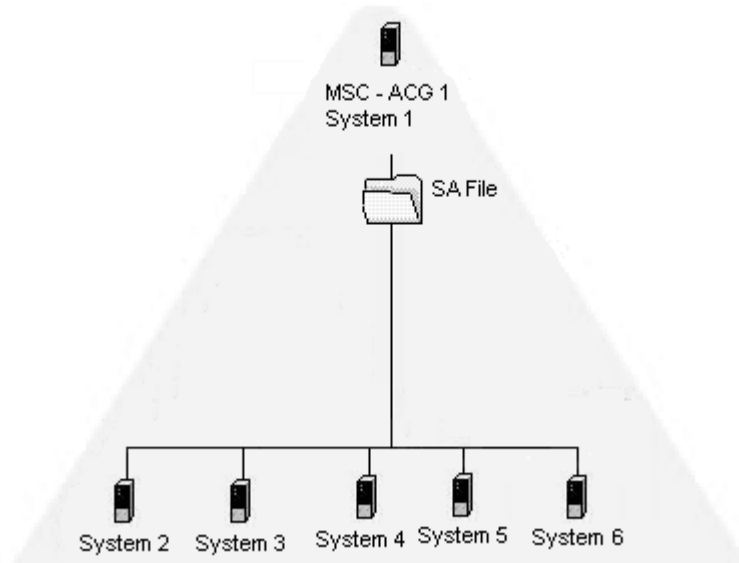

Figure 48: Systems 2 through 6 can access and control their local HBAs
5. Click **OK** or **Apply**. The security configuration is updated on all of the selected servers as well as on the initial system. The following process sets up an MSC (see Figure 48).